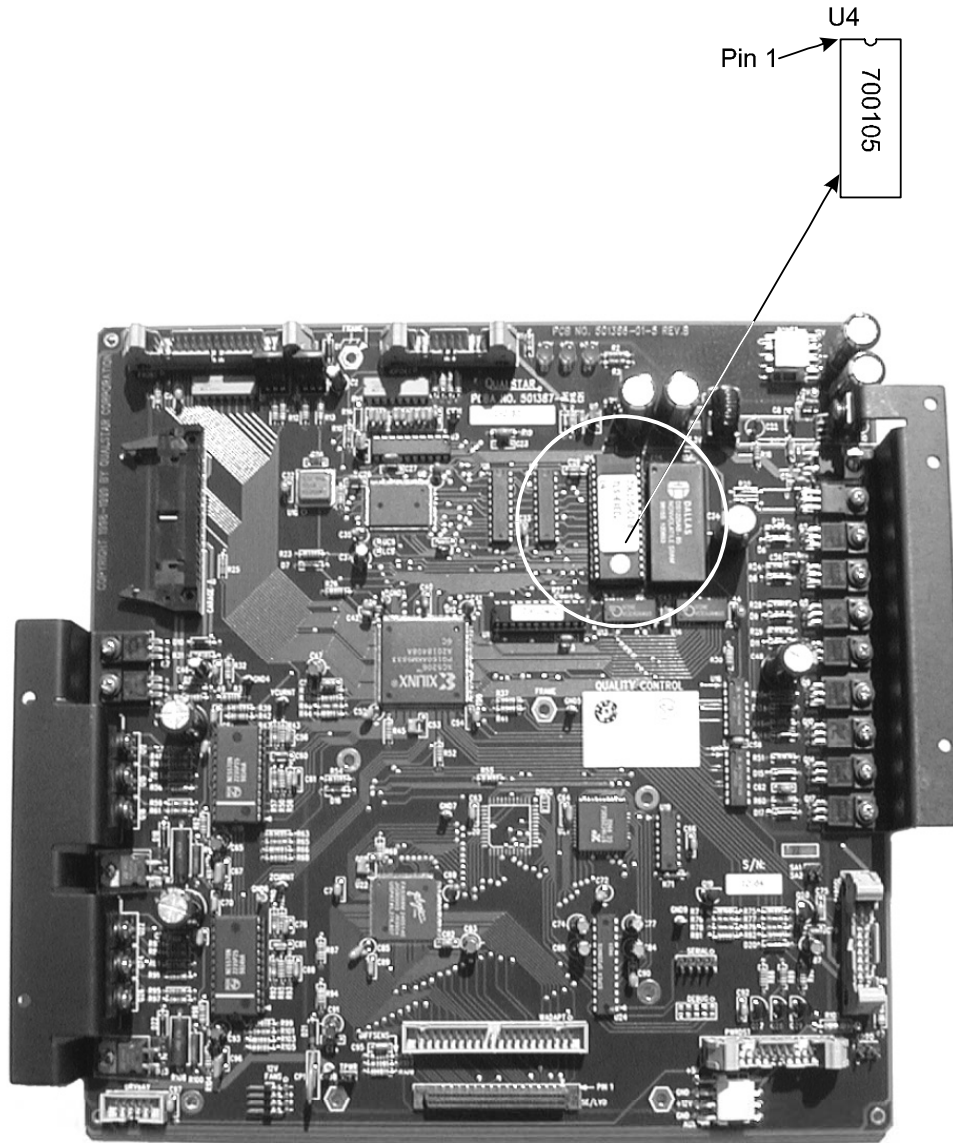

Figure 8-16 501387-01-8 Executive III or 501447-01-5 Executive IV PCBA
3. Remove the Flash-Memory IC at U4 (the Part Number is 700105 or 700115) from the Executive PCBA using a flat blade screwdriver or equivalent tool. Note the IC location (U-number) is identical on Executive II, III and IV boards. Pry the IC from either end slightly and repeat for the other end. Be careful not to bend the legs of the IC. Continue this procedure until the part is loosened enough to be removed by hand. Refer to Figure 8-16.